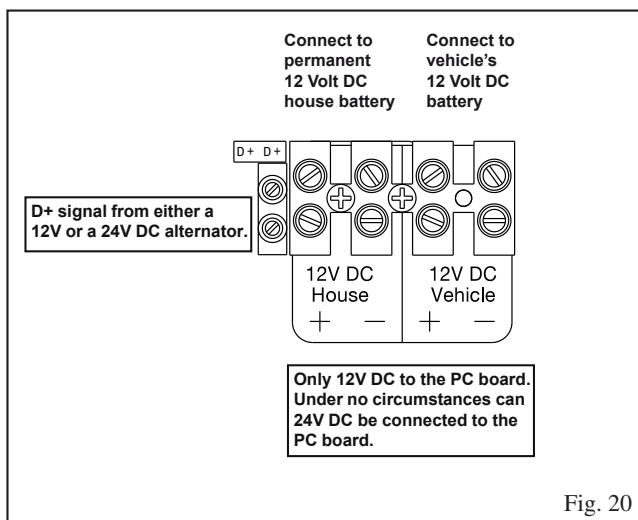

Fig. 20
**RM4605 and RM4805:** One terminal is marked **"12V DC HOUSE"** and the other **"12V DC VEHICLE"**, see Fig. 20.